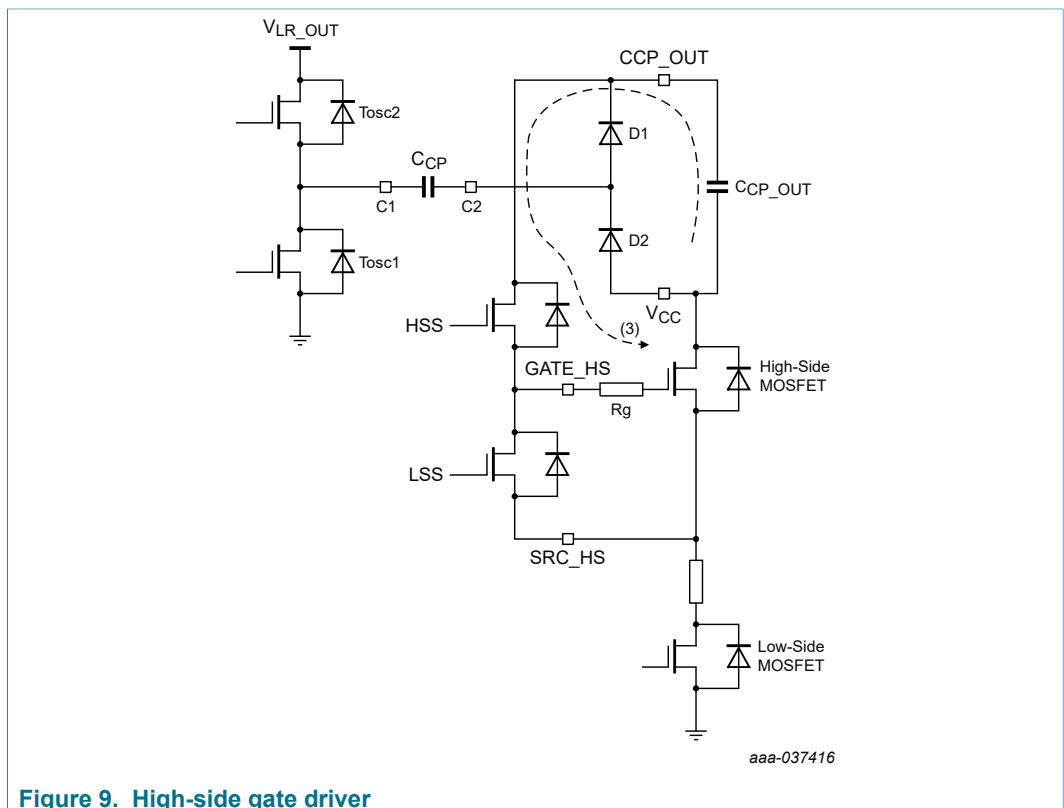

Figure 9. High-side gate driver
Figure 9 represents a simplified circuitry of the high-side gate driver. Transistors $Tosc1$ and $Tosc2$ are the oscillator-switching MOSFETs. When $Tosc1$ is on, the oscillator is at low level. When $Tosc2$ is on, the oscillator is at high level. The capacitor C_{CP_OUT} provides peak current to the high-side MOSFET through HSS during turn-on (3).